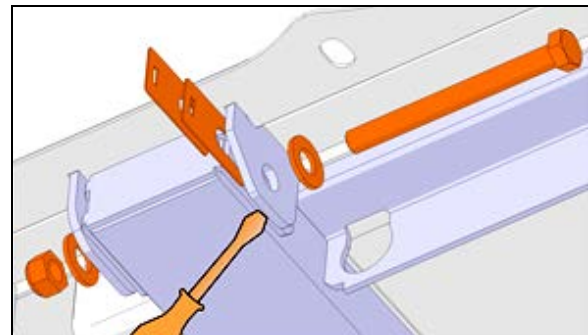

FIGURE 19: SHIM INSTALLATION, TRANSVERSE SCREW. ARRANGEMENT MAY VARY
- Shim arrangement may vary and may be stacked on both sides (Figure 19).